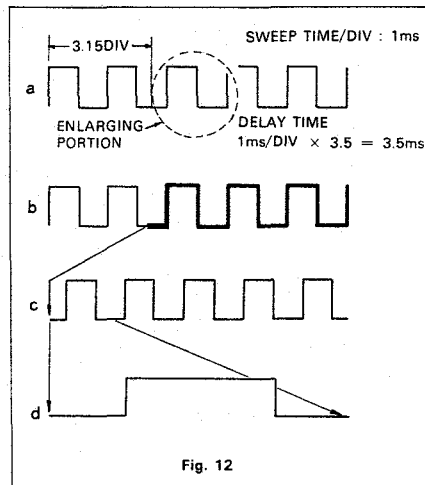

Fig. 12
Any desired portion of waveform can be magnified for easy observation (Fig. 12 shows an example of observation of the enlarged rising portion of square wave).
1. Using SWEEP TIME/DIV (25), read the approximate delay time of the portion to be magnified (about 3.5 ms in Fig. 12-a).
2. Next, set DELAY TIME (16) to the range which includes the delay time (10-1 ms range in Fig. 12-a).
3. Press INTEN'D (31) and the waveform is partially intensity modulated. Turn VARIABLE (17) so that the starting point of the portion to be magnified comes to the left end of the modulated waveform (Fig. 12-b).
4. Press DELAY (30) corresponding to the channel to be observed and delay sweep is effected starting at the set point (Fig. 12-c).
5. Under this condition, adjust SWEEP TIME/DIV (25) and the desired portion of the waveform can be magnified (In Fig. 12-d, SWEEP TIME/DIV (25) is set to 0.2 ms/DIV